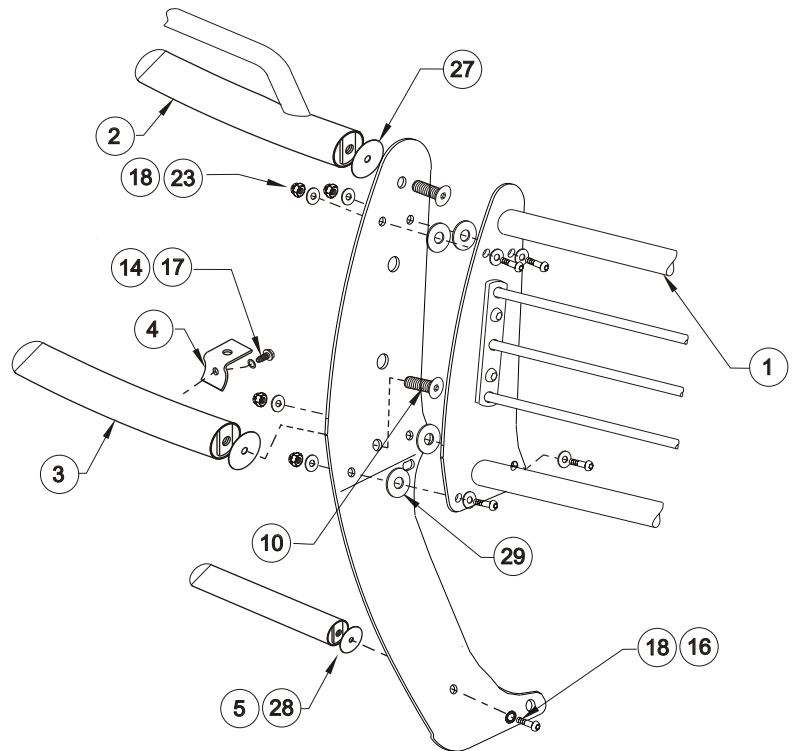

FIGURE 4
- STEP 7. Attach uprights to center and bottom tubes as shown. Level and torque 1/2" fasteners to 60 FT.LBS. and 3/8" fasteners to 30 FT.LBS. **SEE FIGURE 4.**
- STEP 8. Attach light mounts to center tube as shown. Torque to 20 FT.LBS. **SEE FIGURE 4.**
- STEP 9. Attach wing assemblies as shown. Torque to 35 FT.LBS. **SEE FIGURE 4.**